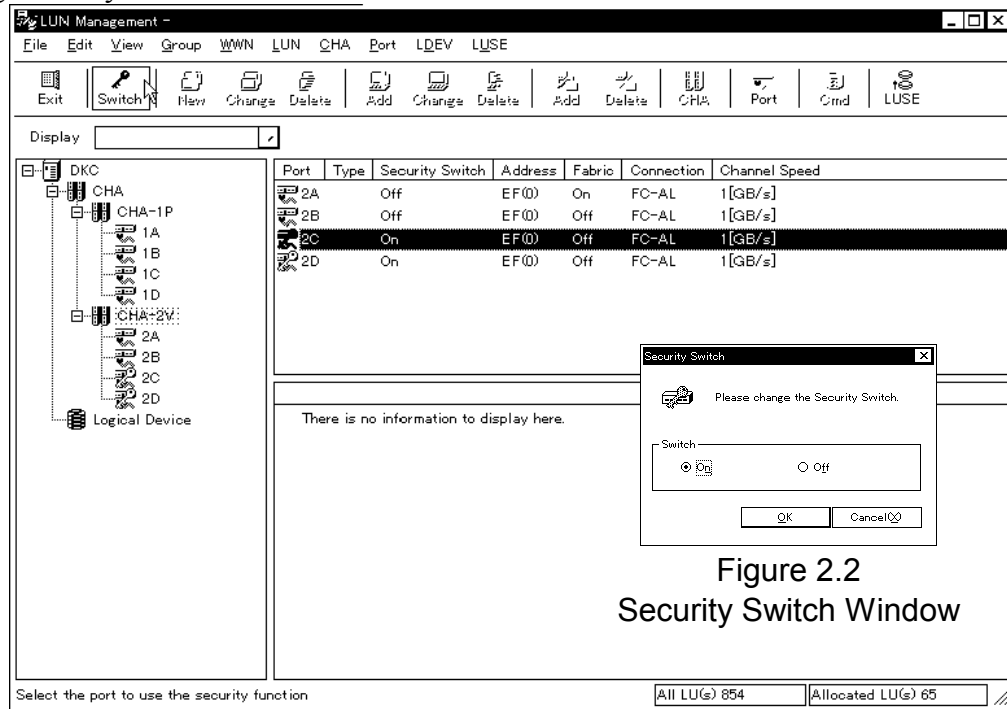

Figure 2.1 Main Window
- ④ The status of the security switch that has been set is reflected in the Main window (Figure 2.1).
Details of the Main window (Figure 2.1) and the Security Switch window (Figure 2.2) are shown below.